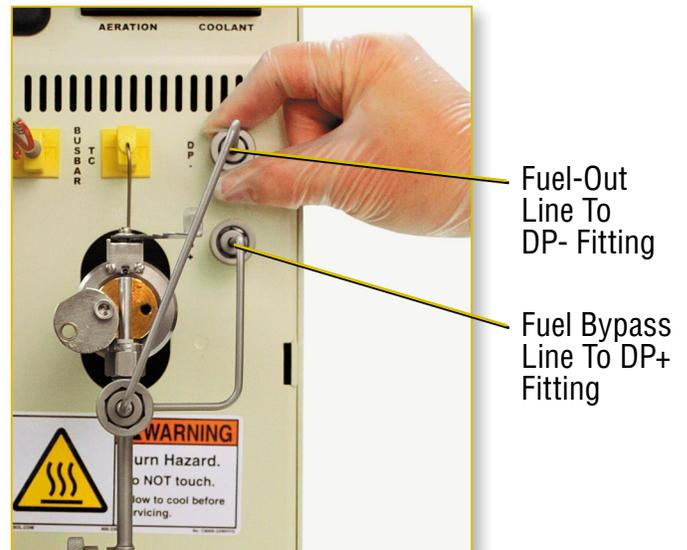

Figure 22 Fuel-Out and Fuel Bypass Lines
15. Attach the fuel-out line to the DP- fitting and fuel bypass line to the DP+ fittings [Figure 22]. Finger tighten the fittings.